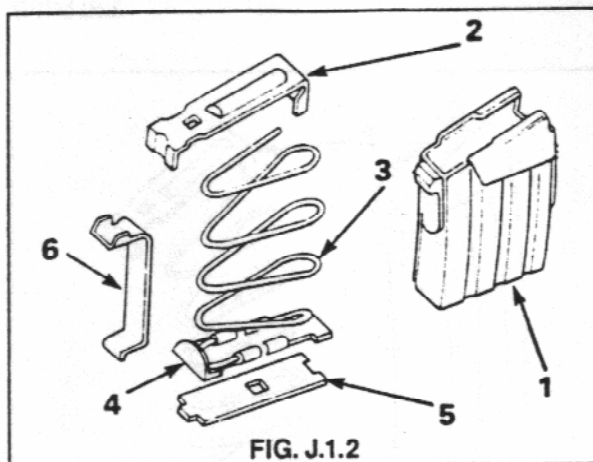

FIG. J.1.2
2. The magazine assemblies consists of the following components as illustrated in Figs. J.1.2, J.1.3 and J.1.4.